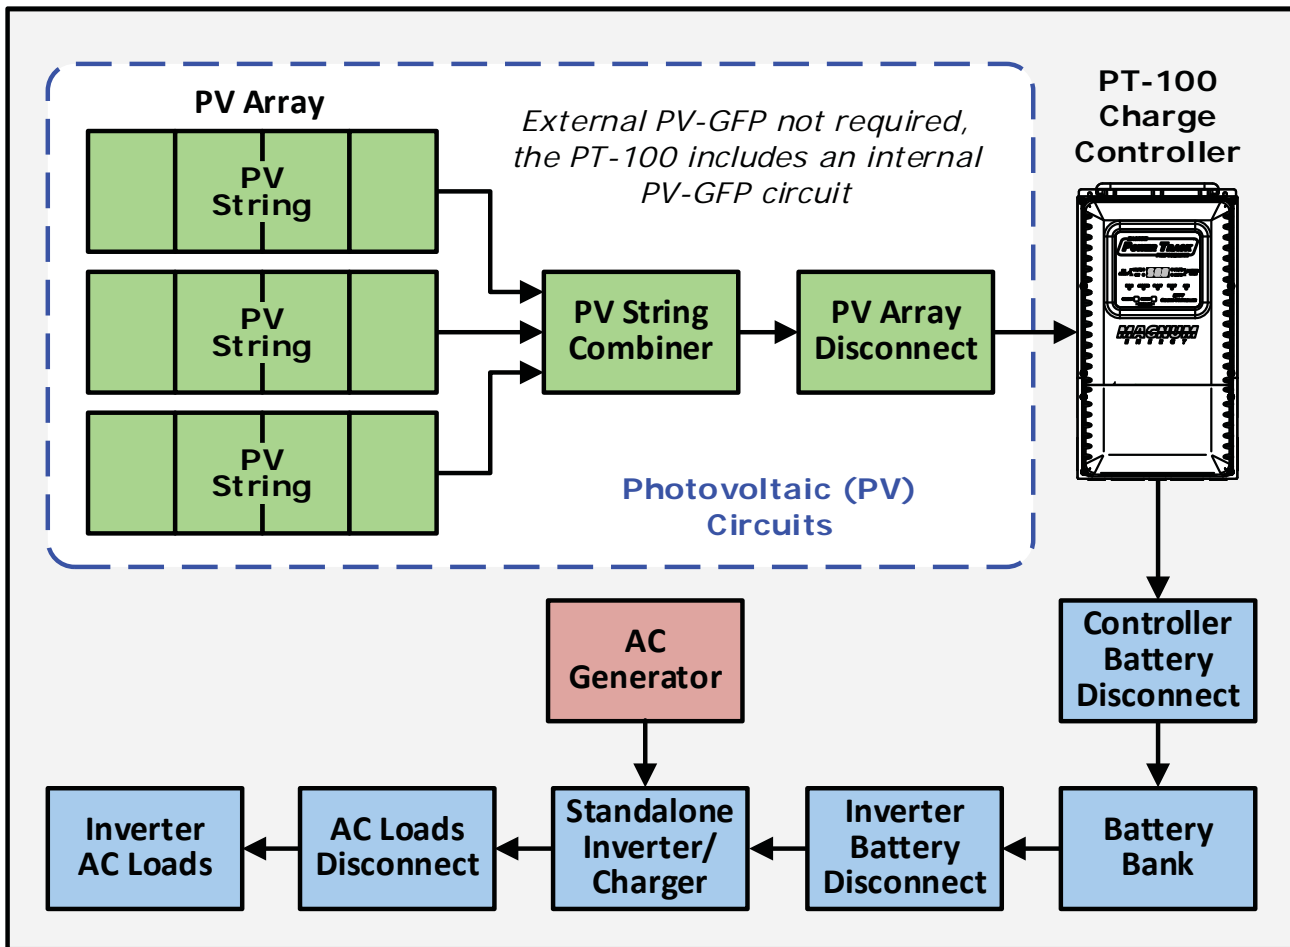

Figure 2-1, Simplified PV System
A simple diagram of a typical stand-alone Photovoltaic (PV) system is illustrated in Figure 2-1. This diagram will help identify the PV system components used with a stand-alone controller.